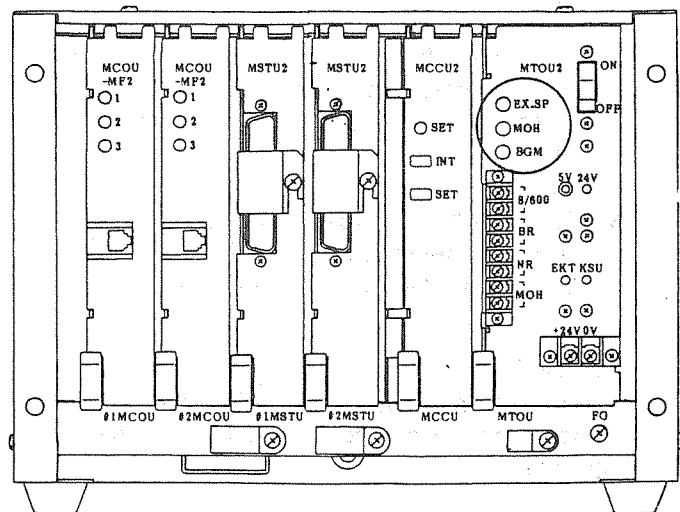

FIGURE 27
11.81 Refer to Figure 27. Adjust the volume for MOH, BGM and Ext. Page with the following sequence: